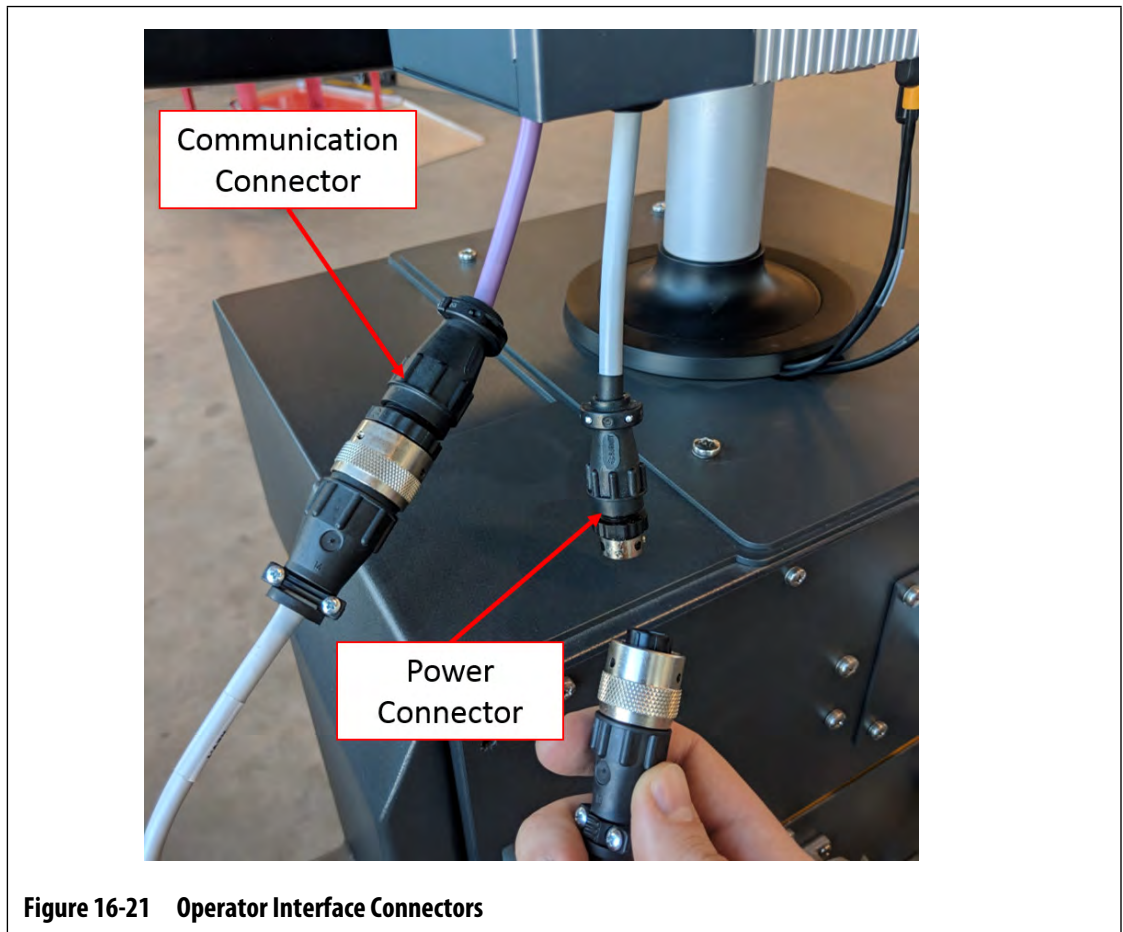

Figure 16-21 Operator Interface Connectors
3. At the bottom of the MCU enclosure, find and disconnect the Power and Communication connectors that come from the controller mainframe. Refer to Figure 16-21.